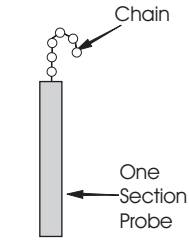

Figure 1
2. Apply a good quality pipe thread sealant to the 2" pipe threads. Insert the probe (See **Figure 1**) down into the 2" pipe nipple. Connect the probe to the transducer assembly. **For multi-section probes see instructions below.**